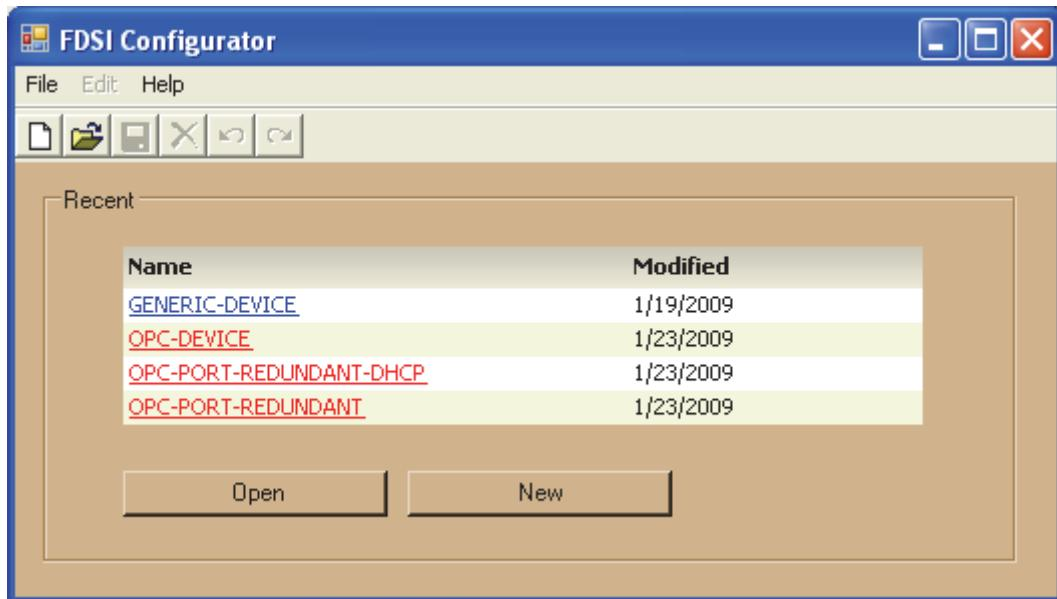

Figure 7-15. FDSI Configurator Display
This brings up the first FDSI Configurator (Figure 7-15) display. The fields and buttons on the display are described in Table 7-1 and the menus are described in the following paragraphs.
1. Click **File > Open or  on the FDSI Configurator display (Figure 7-15).**